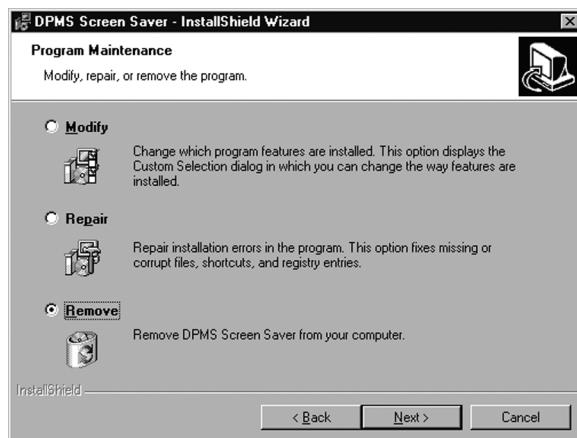

Figure 37
4. Click "**Remove**" on the Remove Program Screen of the Wizard (figure 37 on page 82).